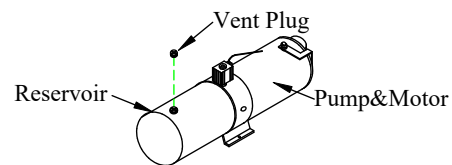

Figure 15: Vent plug.
7. **Install** the vent plug provided into the pump reservoir (Figure 15).